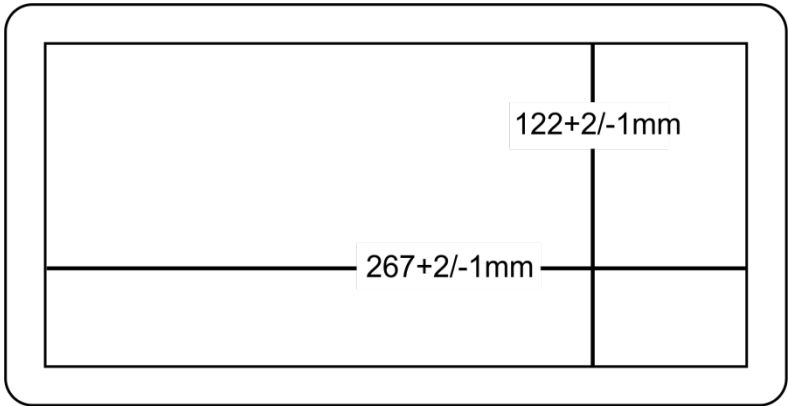

Figure 5: Cut out Dimensions
4. Following the **inside** edge of the template, cut a hole in the table surface with a sabre or keyhole saw according to the dimensions shown in Figure 5 (not to scale).